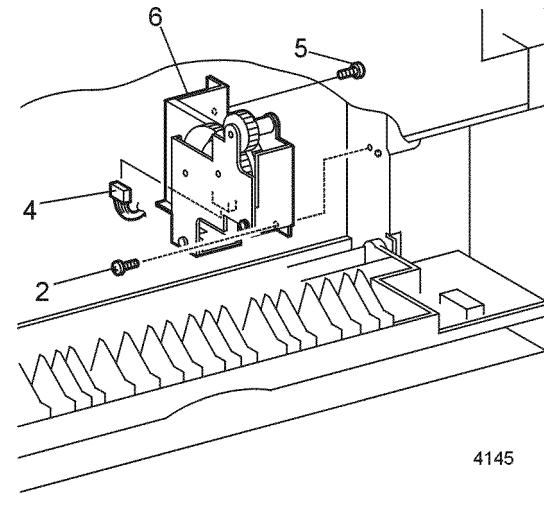

Figure 1 Drive Assembly
5. Remove the screw that secures the front of the Drive Assembly (Figure 1).
6. Remove the Drive Assembly (Figure 1).